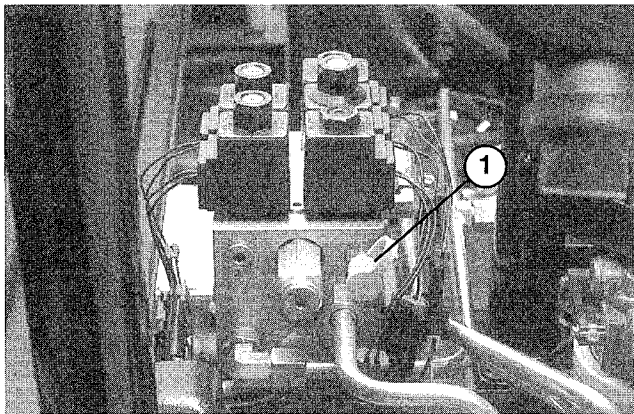

Figure 49
2. Test Port #2 (Fig. 49) is used to assist in trouble shooting the hydraulic circuit for the rear cutting units.